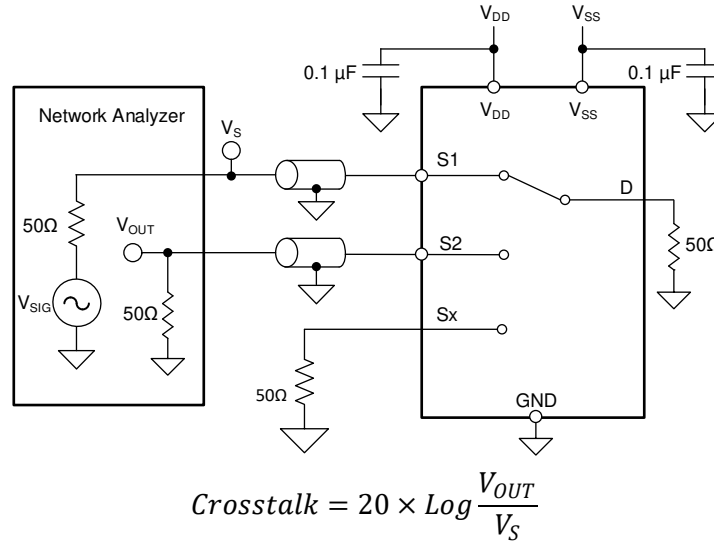

Figure 8-11. Crosstalk Measurement Setup
Crosstalk is defined as the ratio of the signal at the drain pin (D) of a different channel, when a signal is applied at the source pin (Sx) of an on-channel. Figure 8-11 shows the setup used to measure, and the equation used to calculate crosstalk.